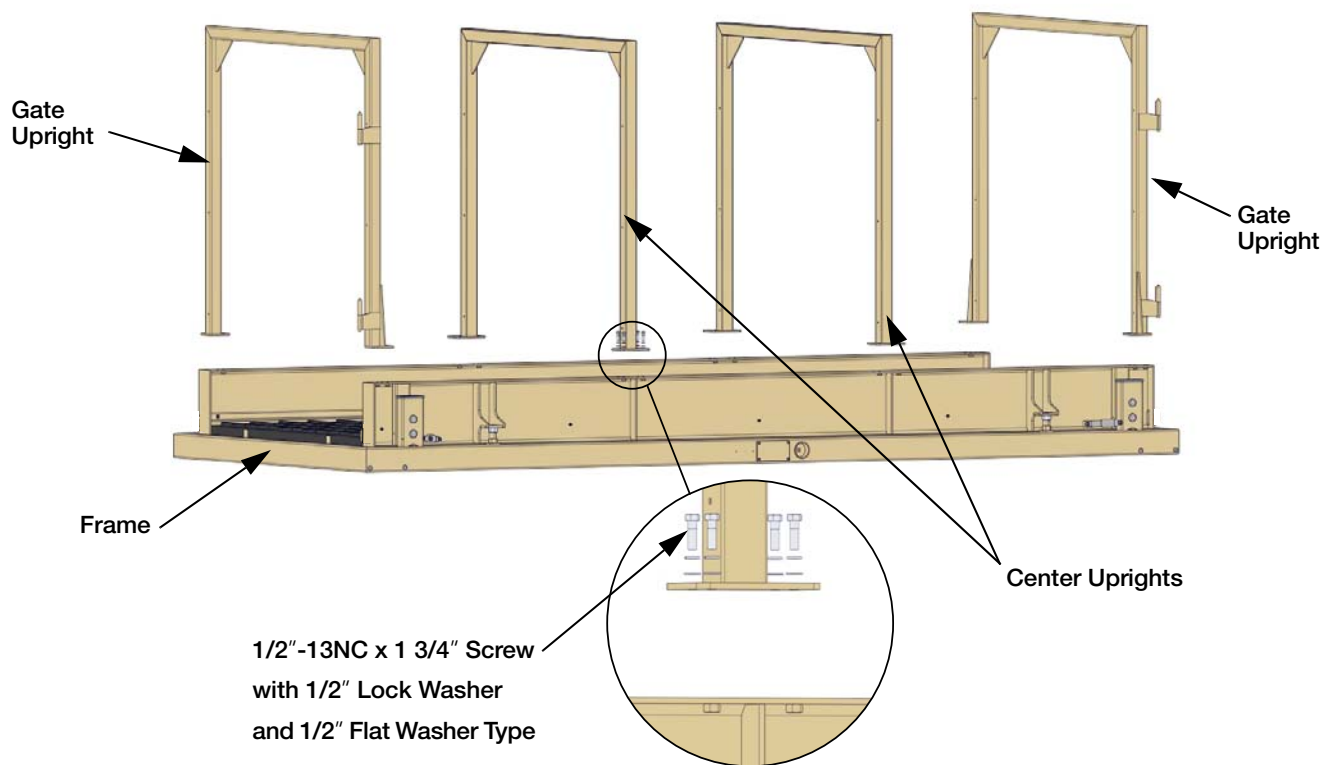

Figure 2-2. Install Internal Overhead Assemblies
3. Install the two internal upright assemblies and the two gate upright assemblies to the base frame using the hardware provided. See Figure 2-2.